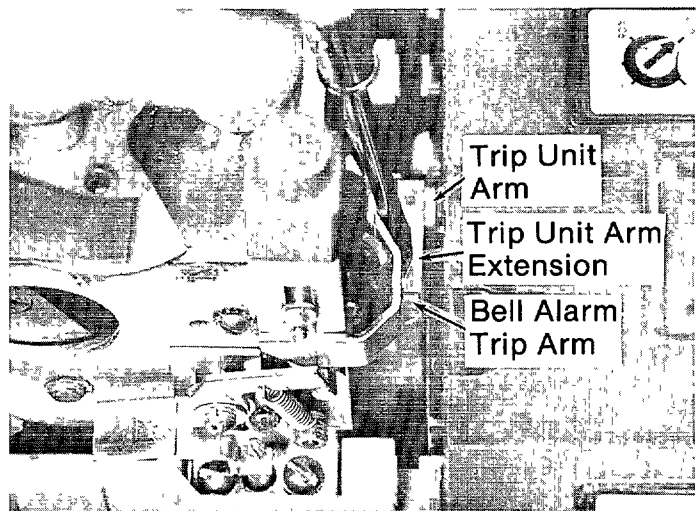
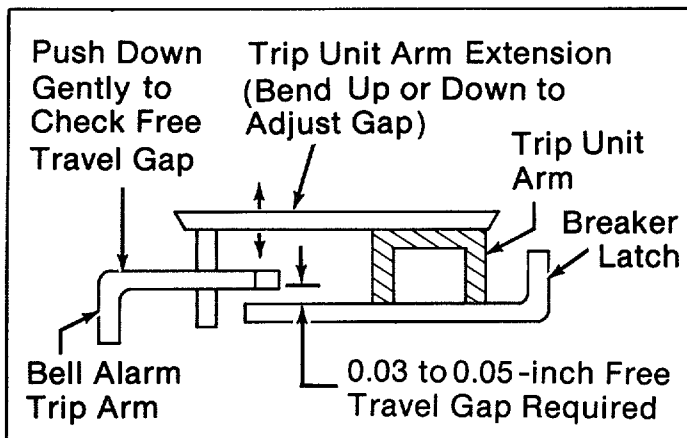

Fig. 7. Checking free travel of trip arm.
Fig. 8. Checking free travel of trip arm (view from load end of breaker).
9. Reinstall the trip unit. As shown in Fig. 7, use a screwdriver to hold the trip unit trip bar extension down in contact with the breaker latch. Then, push the bell alarm trip arm down to observe the free travel. If the free travel is not as shown in Fig. 8 (0.03 to 0.05 inch), adjust it by using small nose pliers to bend the extension up or down.